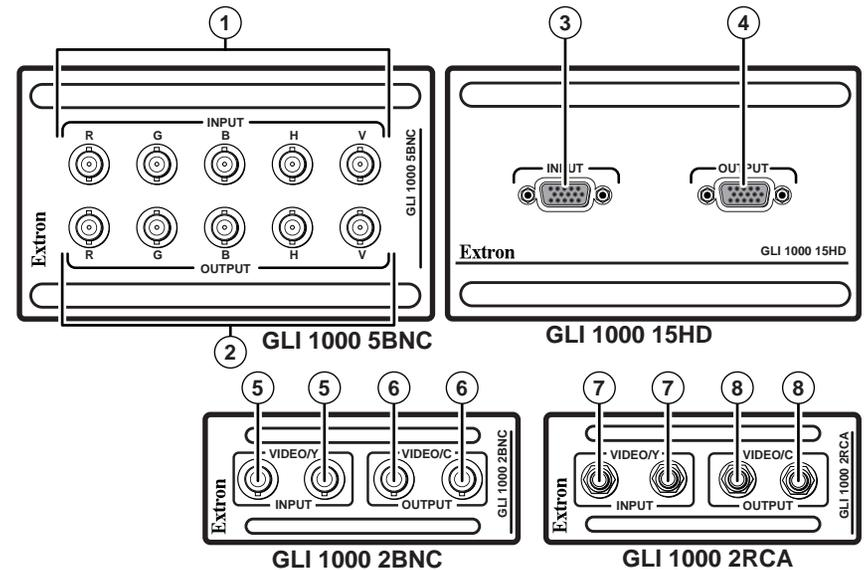

Figure 5 — GLI 1000 connections
- ① **Input connectors** — Connect an RGBHV, RGBS, RGsB, RsGsBs, component video source, one or two S-video sources, or up to five composite video sources to the five Input BNCs (figure 5).
- ⑤ **Video/Y and Video/C Input connectors** — Connect an S-video source or two composite video sources to the two Input BNCs (figure 5).
- ⑥ **Video/Y and Video/C Output connectors** — Connect an S-video display or two composite video displays to the two Output BNCs.